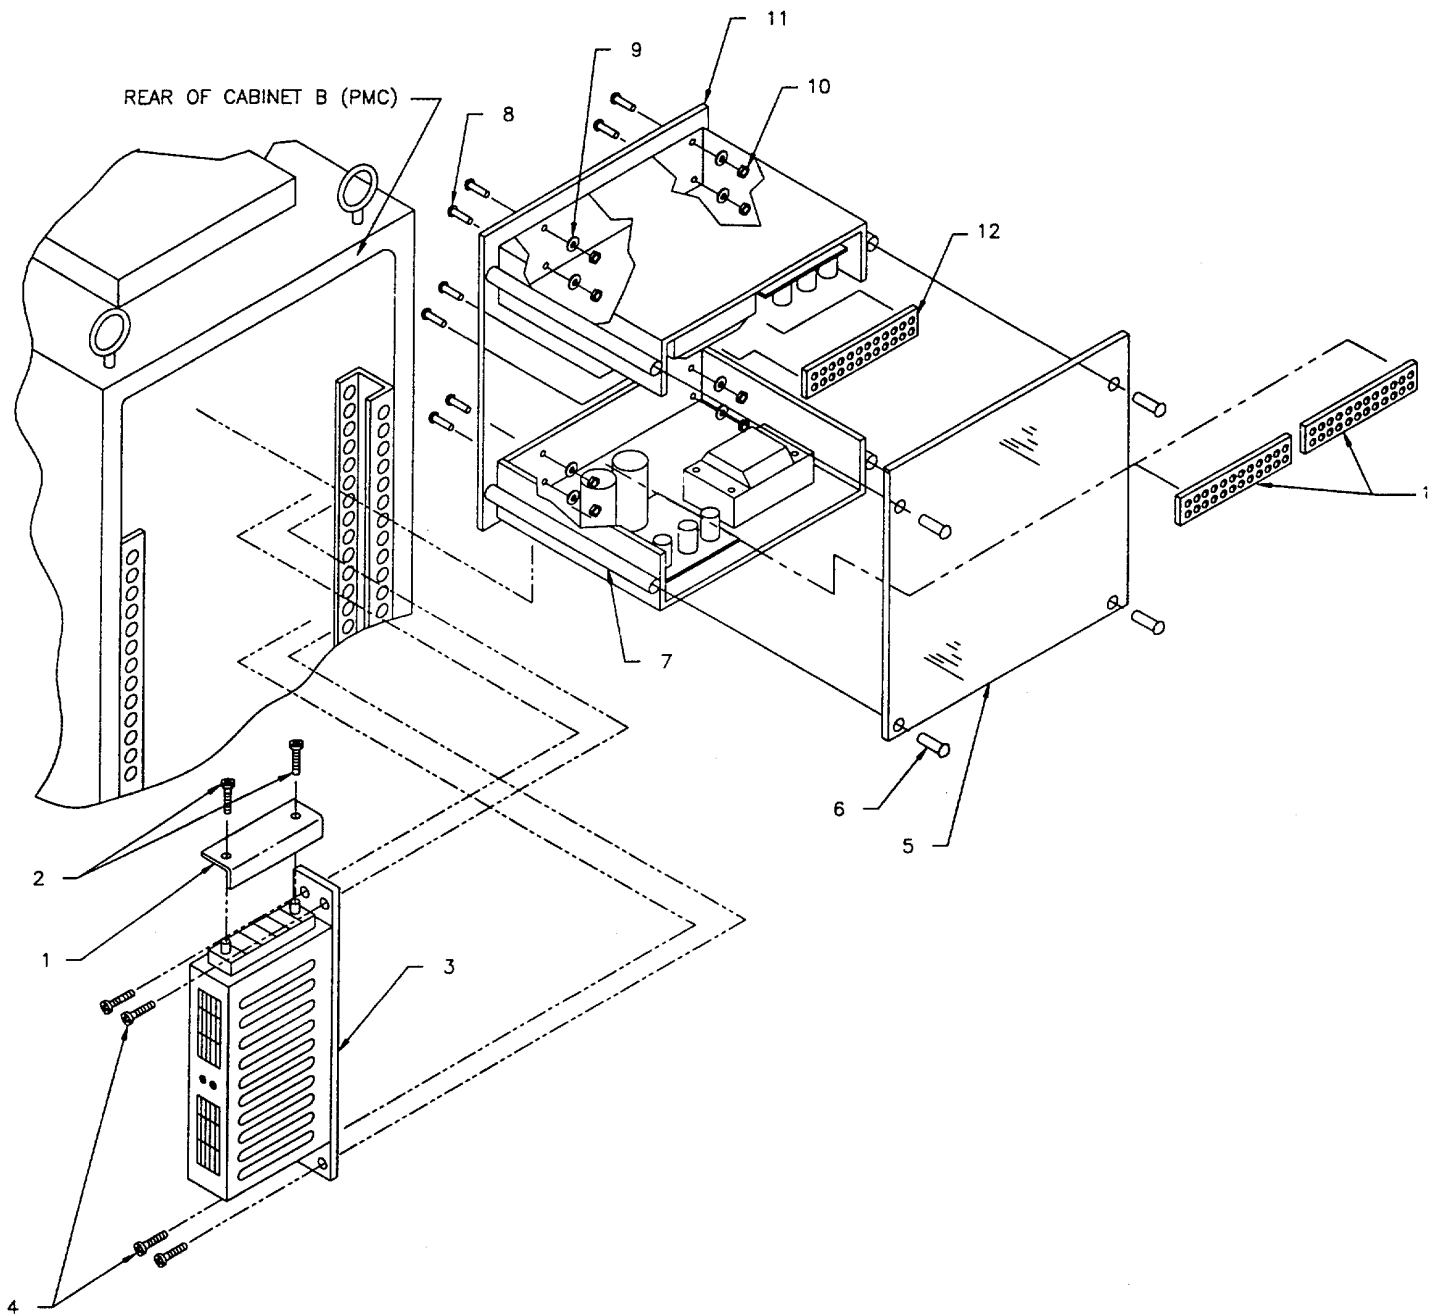

Figure 3-34. PMC 5 vdc and +12 vdc Power Supply Assemblies
- (3) Remove protective cover (Figure 3-34, 1) from power supply (3) terminal board by removing two screws (2) holding cover to standoffs.
- (4) Tag and remove wires from power supply (3) input terminal board.
- (5) Remove four screws (4) holding power supply (3) to side of cabinet B.